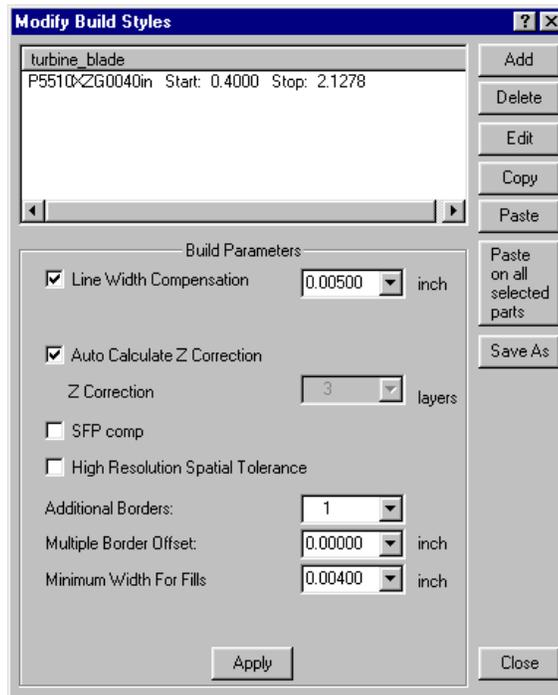

Figure 65. *Modify Build Styles Dialog (SLA 5000)*
3. **Click the "Modify Build Styles"... icon on the "Build Toolbar". See Figure 65.**
To perform any of the button functions, you must first select the style to which you want to apply the function. You can select only one style at a time. The dialog in Figure 65 shows only one build style assigned to the part. This means that the entire part will use the same build style from start to finish. After selecting the style, you can perform the "Add", "Delete", "Edit", "Copy", "Paste", and "Paste on All Selected Parts" functions, each of which is explained below.